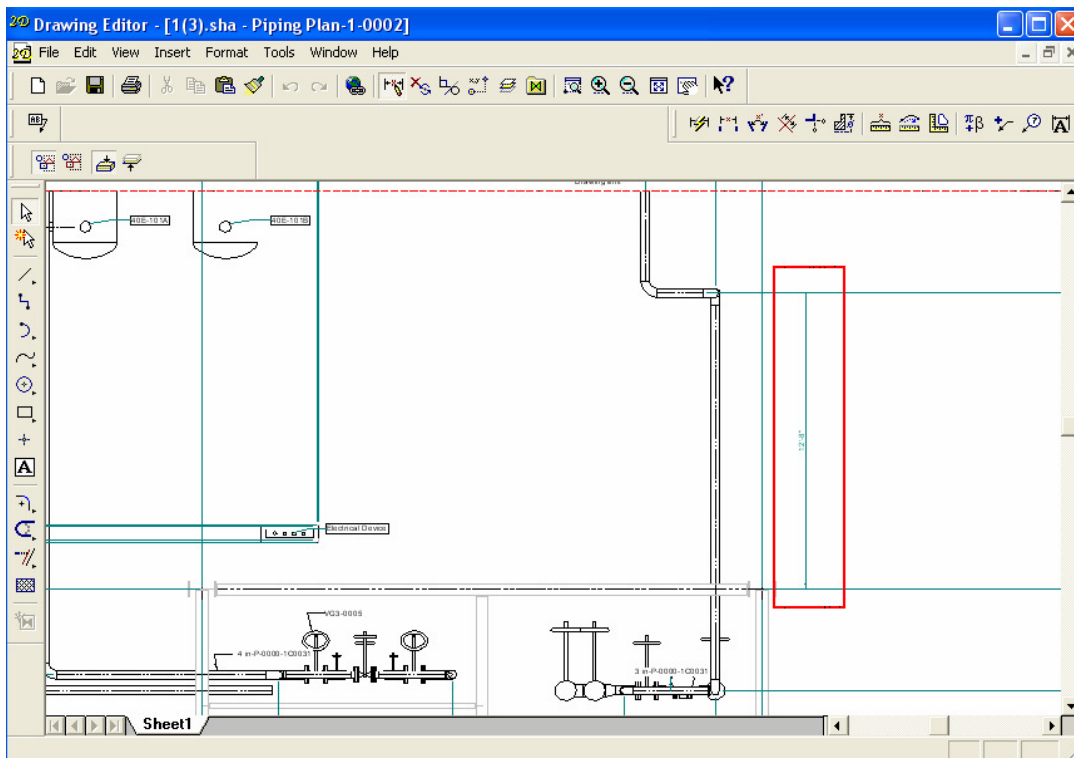

**Figure 13: Moving a Label**
- To move a label after it has been placed, click and drag the label by its origin point, which is defined by the green circle in the middle of the label, as shown in Figure 13.